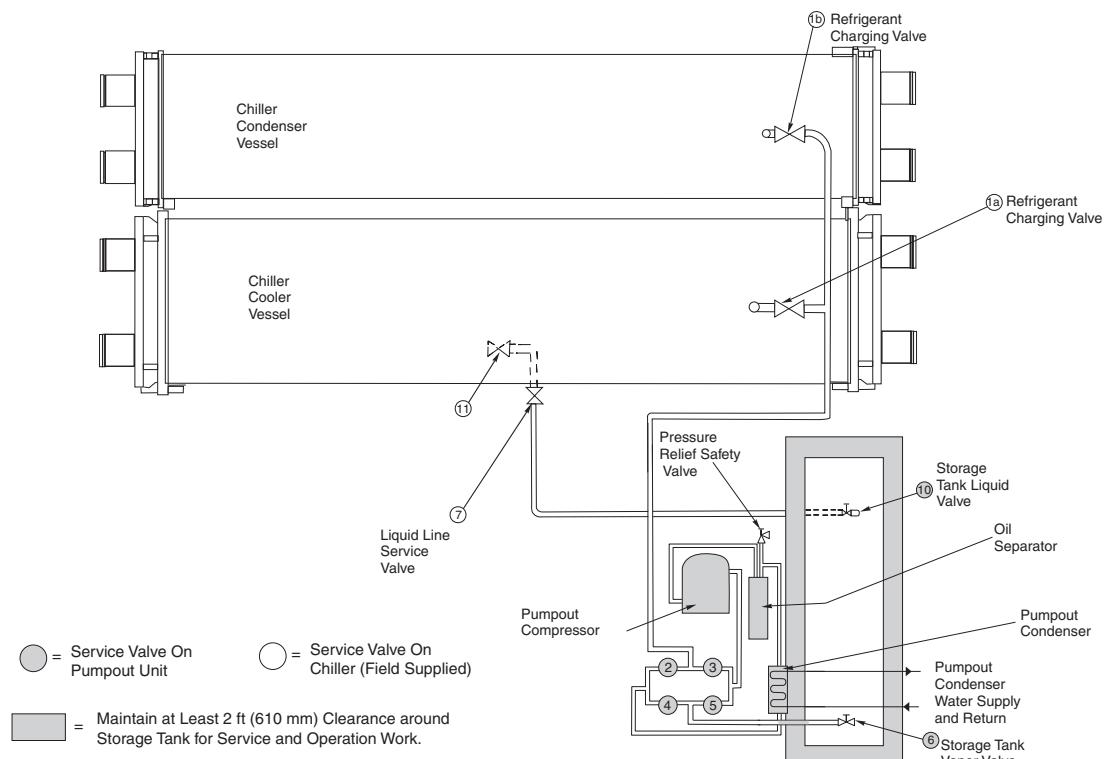

Fig. 40 — Typical Optional Pumpout System Piping Schematic with Storage Tank
For refrigerant side service work the refrigerant can be isolated in a storage tank. Note that R-1233zd(E) is a low pressure refrigerant, so therefore it is recommended to use refrigerant equipment suited for low pressure refrigerants. The following procedures and Fig. 40 and 41 describe how to transfer refrigerant from vessel to vessel and perform chiller evacuation.